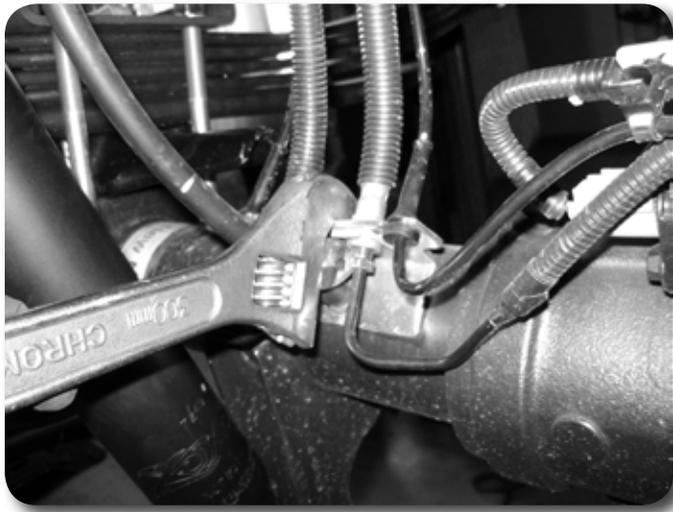

Figure 24
13. The brakelines may require additional slack. Located the factory bracket on the axle. Using an adjustable wrench, carefully bend the bracket so the fittings are positioned vertical to allow more slack. Figure 24